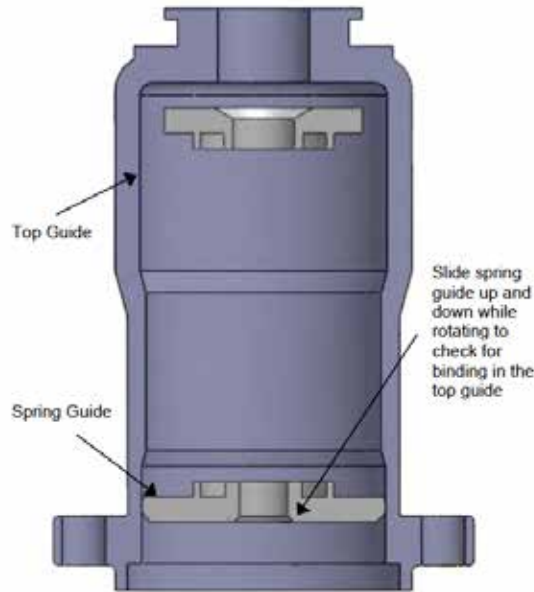

Figure 4-8 Spring Guide
- 4.1.8.1** This structural part has guides on its outer edges (Figure 4-8). Move it up and down the length of the top guide as indicated below. If it binds, look for dents or gouged surfaces on the inside of the top guide. Repair the damage to allow free movement of the spring guide.